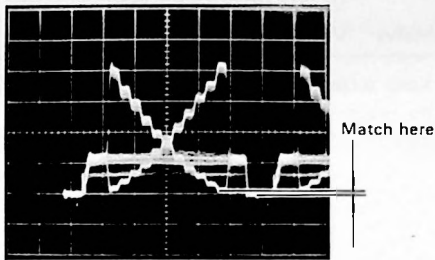

Fig. 4-4-42
- Adjust R. PED VR222 so that the pedestal level of R signal matches that of YL signal. (Fig. 4-4-42)